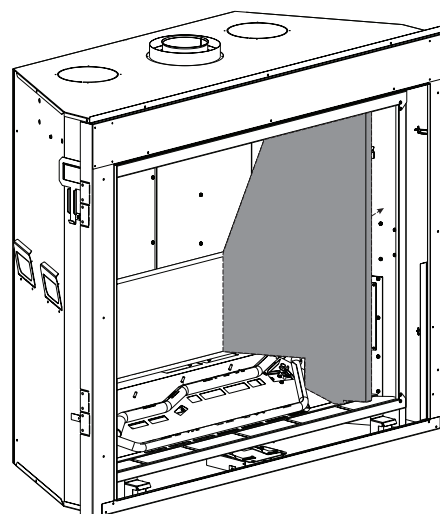

Figure 100
4. Remove right liner panel. **See Figure 100.**